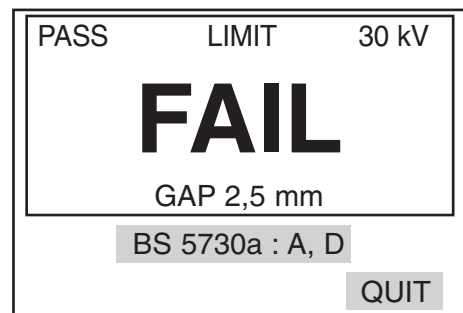

Figure 13b
- The sequence of events is now dependent on the result of the second test. If the test was unsuccessful no further testing takes place. The display figure 13b is presented.
- If the test was successful the display of figure 13a is presented, alternatively figure 13b will be displayed if the third test is unsuccessful.